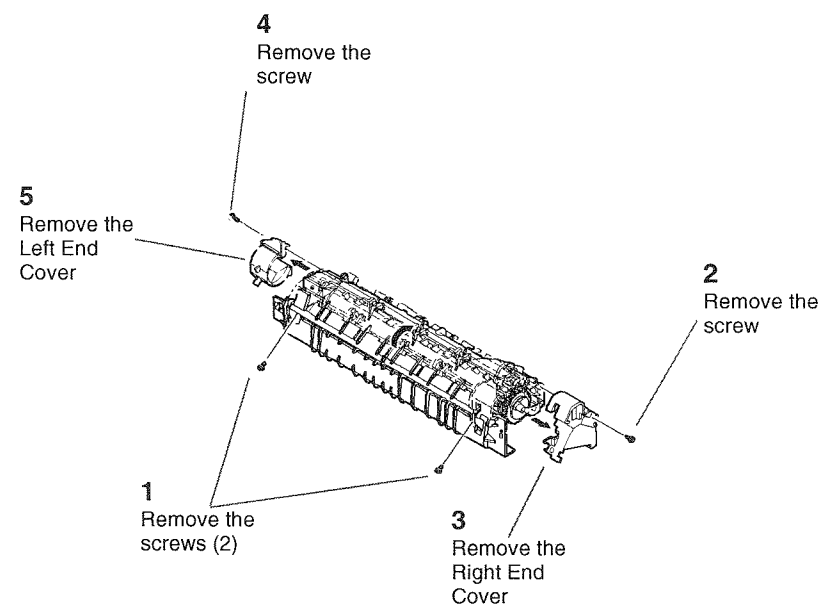

Figure 1 Removing the End Covers
5. ( Figure 1): Remove the End Covers and open the assembly.